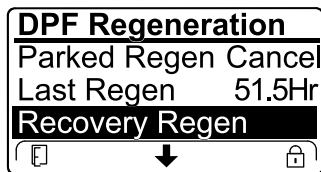

Figure 61
- If the engine computer has not requested a recovery regeneration and you scroll down to the RECOVERY REGEN option, the recovery regeneration locks and the lock icon (Figure 61) appears in the lower right corner of the InfoCenter.